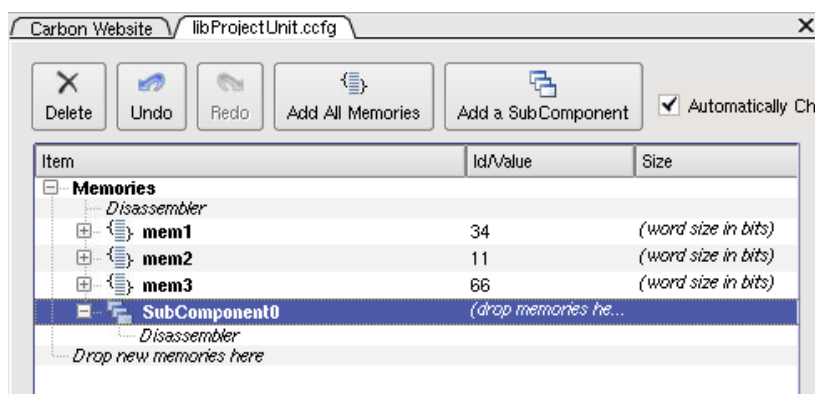

Figure 5-45 Subcomponent Views in Memories Page
1. Click the **Add a Subcomponent** button. A subcomponent row is added to the *Memories* list as shown in Figure 5-45.